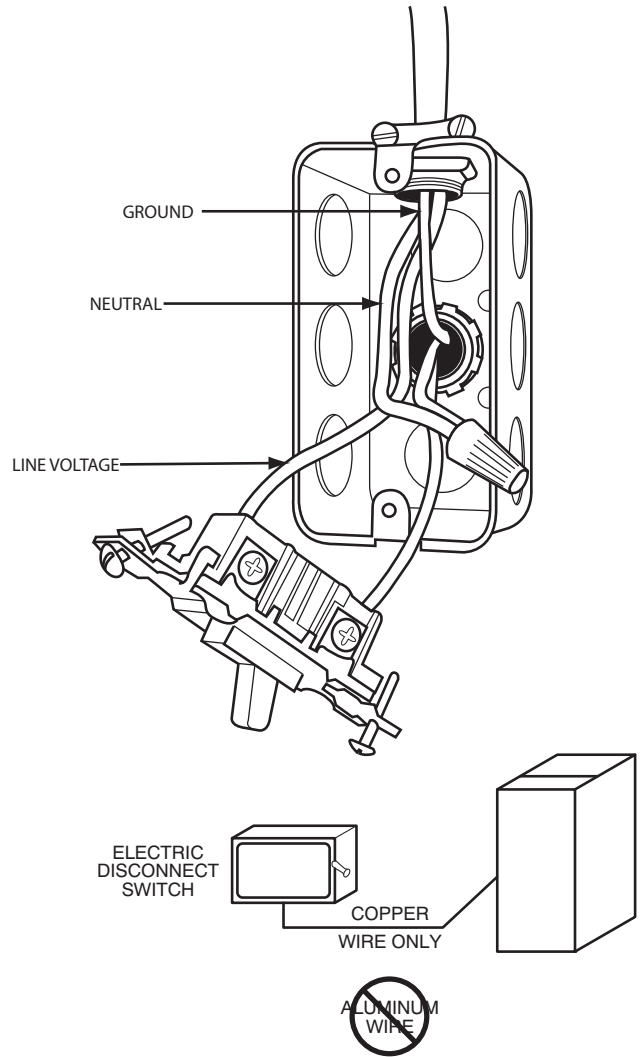

Fig. 31 - Field-Supplied Electrical Box on Furnace Casing
Do not connect aluminum wire between disconnect switch and furnace. Use only copper wire. See Fig. 31.
1. Fasten a field-supplied external electrical box to the outside of the casing by driving two field-supplied screws from inside electrical box into casing. See Fig. 31.
9. Complete external disconnect wiring and installation. Connect line voltage leads as shown in Fig. 31. Use best practices (NEC in U.S.A. for wire bushings, strain relief, etc., CANADA: Canadian Electrical Code CSA C22.1)